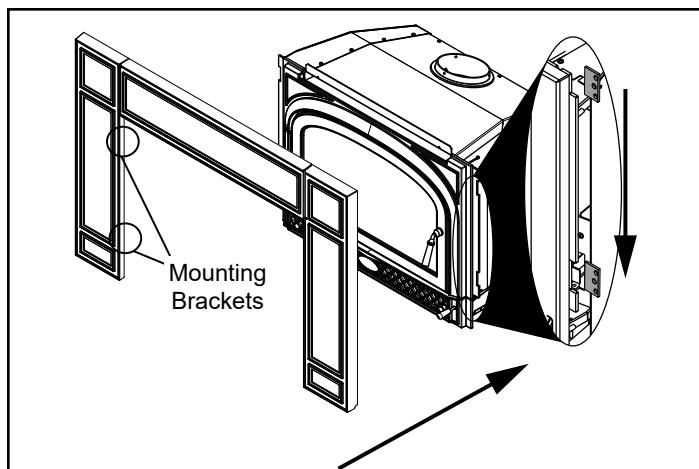

Figure 21.2
5. Slide cast trim assembly over the top of the appliance and set in position by guiding the right and left cast side bracket through the slots on the side of the appliance. Gently drop the assembly down into place (Figure 21.2).